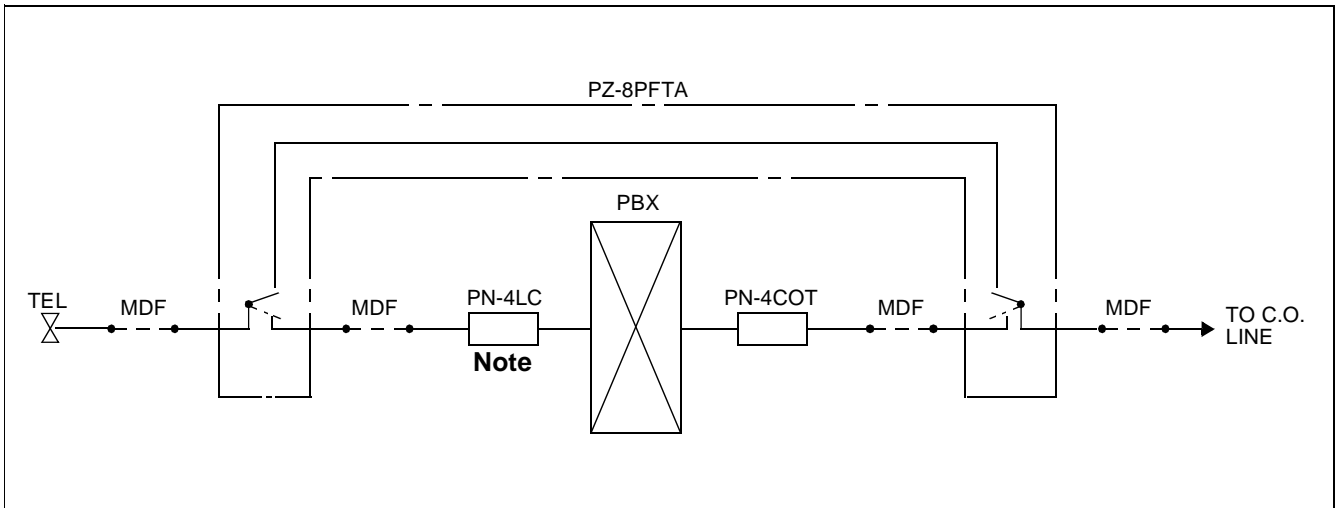

Figure 3-32 PFT (PZ-8PFTA) Connection Outline
(2) When using PZ-8PFTA card at a remote site
- Figure 3-32 shows an outline of a PFT (PZ-8PFTA) connection.